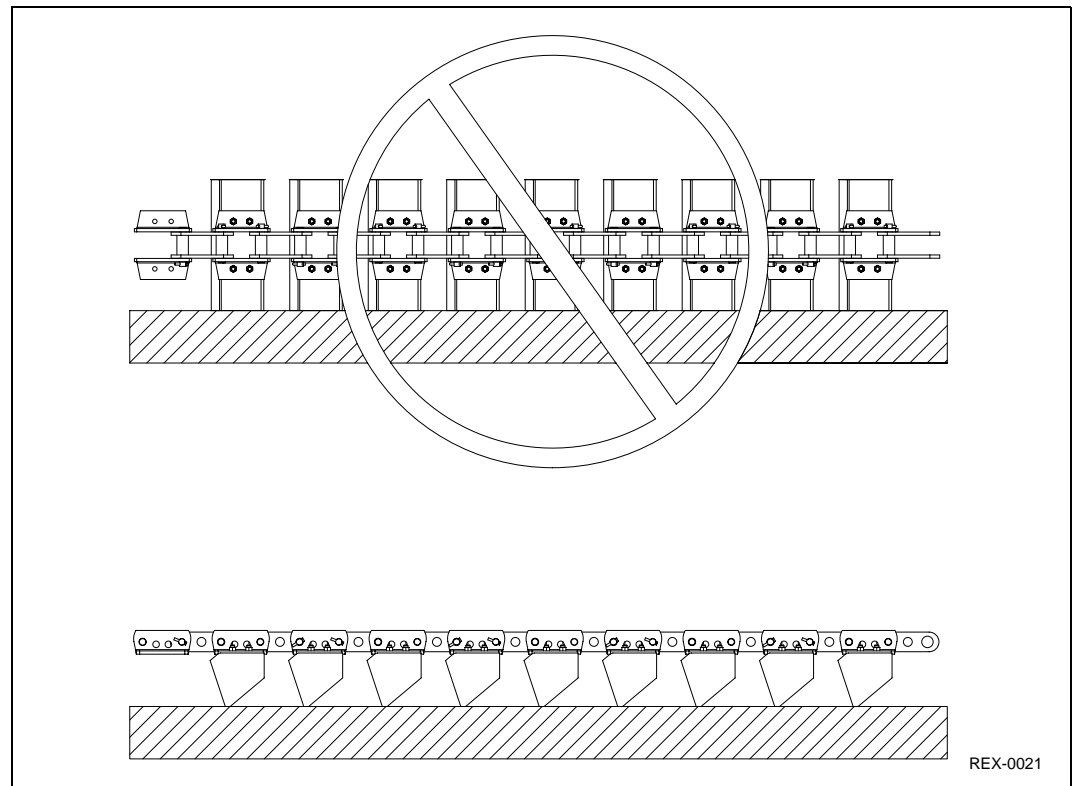

Figure 4-26:
2. Assemble the chain and buckets with the bucket's lip facing down and the chain placed on top of the buckets as shown in Figure 4-26.